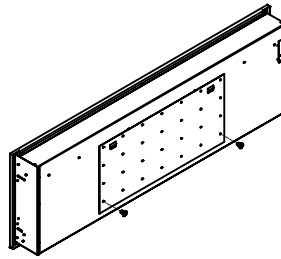

Fig 2
4. Remove the hanger from the fireplace by removing the screws. See Figure 2.